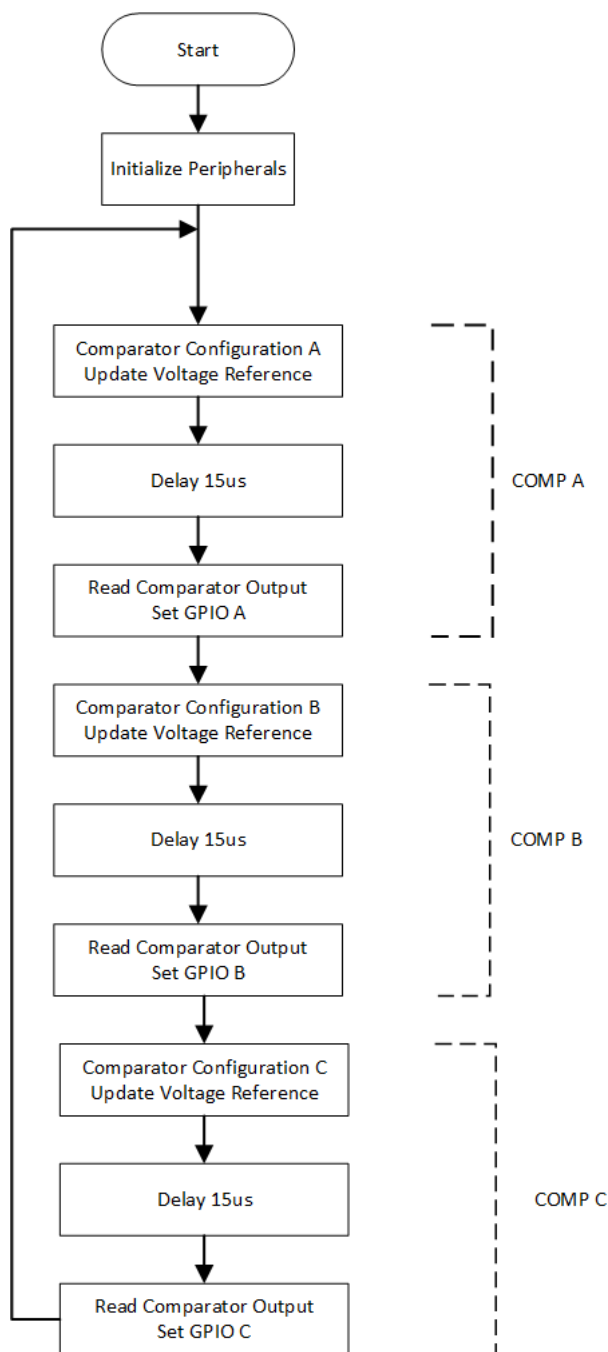

Figure 5-1. Application Software Flow Chart
5. Write application code to call each configuration setting, delay for settling time, and assign the result to the corresponding IO pin. See Figure 5-1 for an overview of the software.